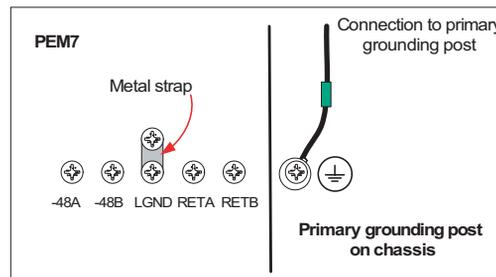

FIGURE 1-10 Single Grounding Configuration
- Do not connect anything else to the center terminal of the terminal block. Refer to Figure 1-10.